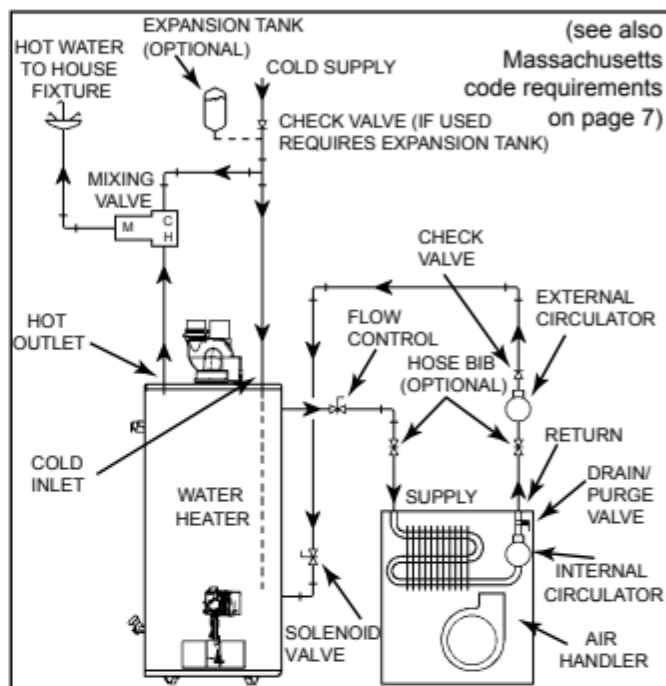
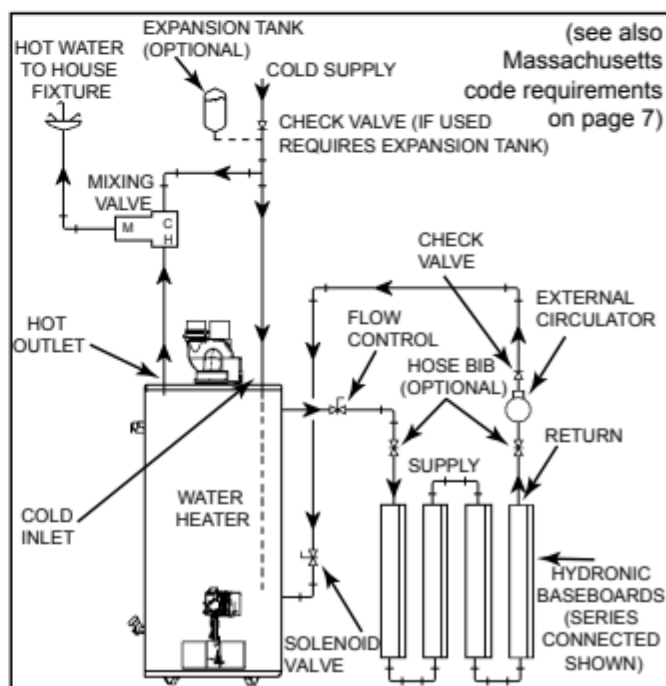

Figure 14.
Figure 15.
8. "Combo" Heating Systems require higher water temperatures than other applications. When the system is used to supply water for Combo Heating applications, a means, such as mixing valve, must be installed to temper the water in order to reduce scald hazard potential (see Figure 14 & Figure 15).
- A. A fan coil/air handler (Figure 14).
- B. A hydronic baseboard (finned tube) loop/In floor heating (Figure 15).